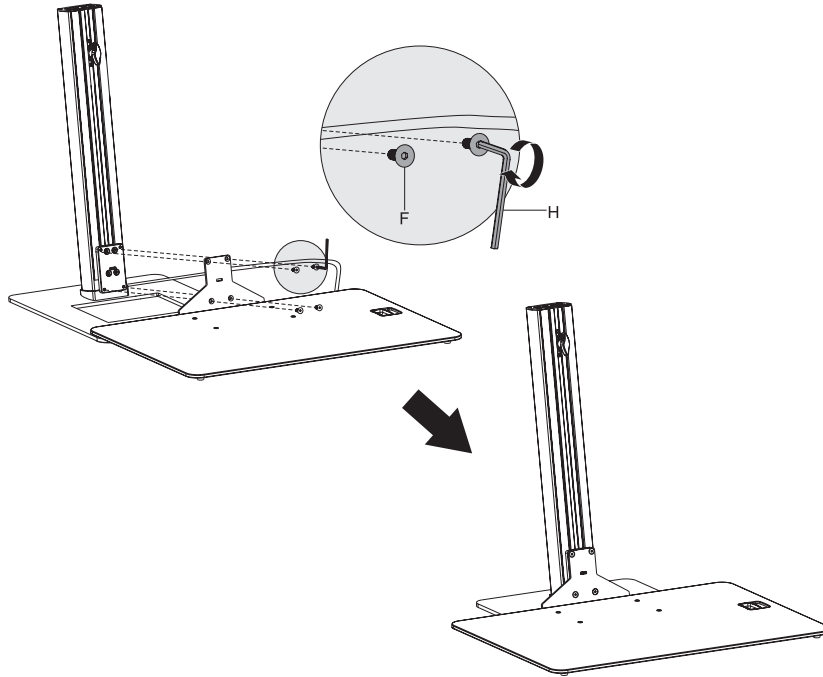

Figure 3
2. Mount the Keyboard Tray to the Support Pole, insert Bolt (F) and tighten using Allen Key (H), see Figure 3.